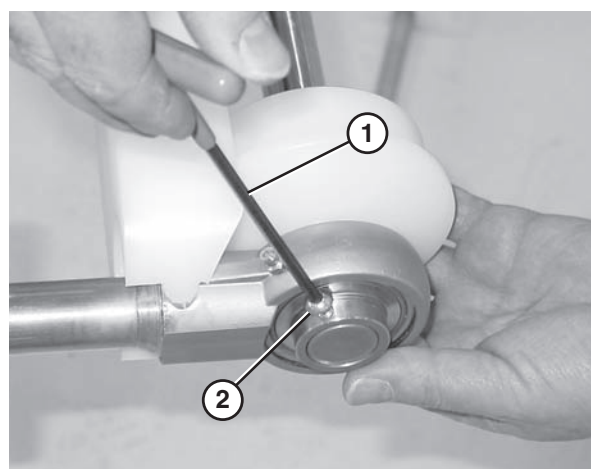

Figure 75
4. Use a hex wrench (**Figure 75, item 1**) to loosen the bearing shaft assembly fasteners (**Figure 75, item 2**).